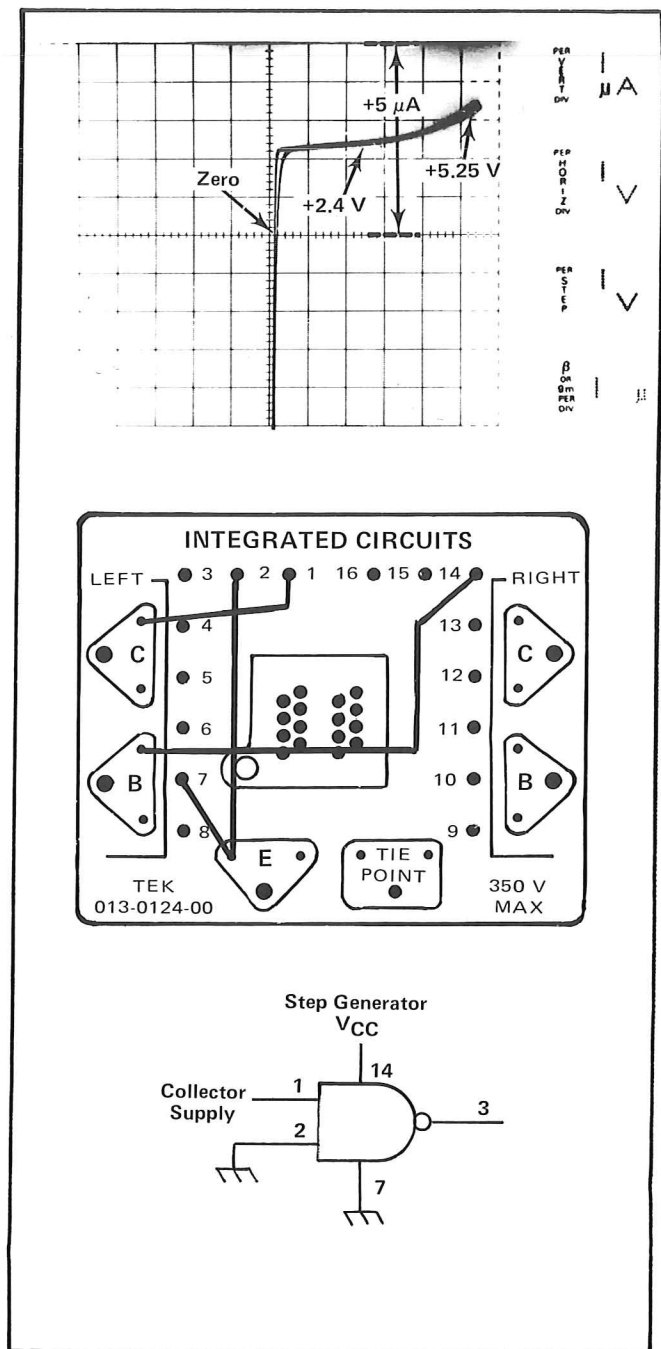

Fig. 8. Setup and Type 576 display for measuring  $I_{IN} (1)$ .
b. Connect the patch wires to the IC adapter as shown in Fig. 8.2
c. Set the LEFT-OFF-RIGHT switch to LEFT and turn the VARIABLE COLLECTOR SUPPLY control clockwise until the input voltage is at +5.25 V (see the display in Fig. 8).